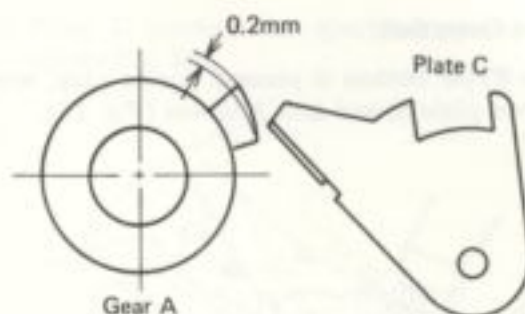
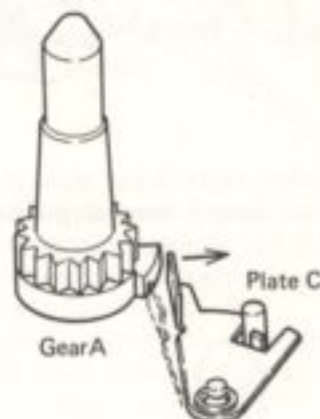

Fig. 12
Fig. 13
4. The raised convex portion of gear A possesses a taper, as shown in Fig. 12. While stylus is within 1.5mm per platter rotation, this tapered portion pushed back on plate C (Fig. 13).